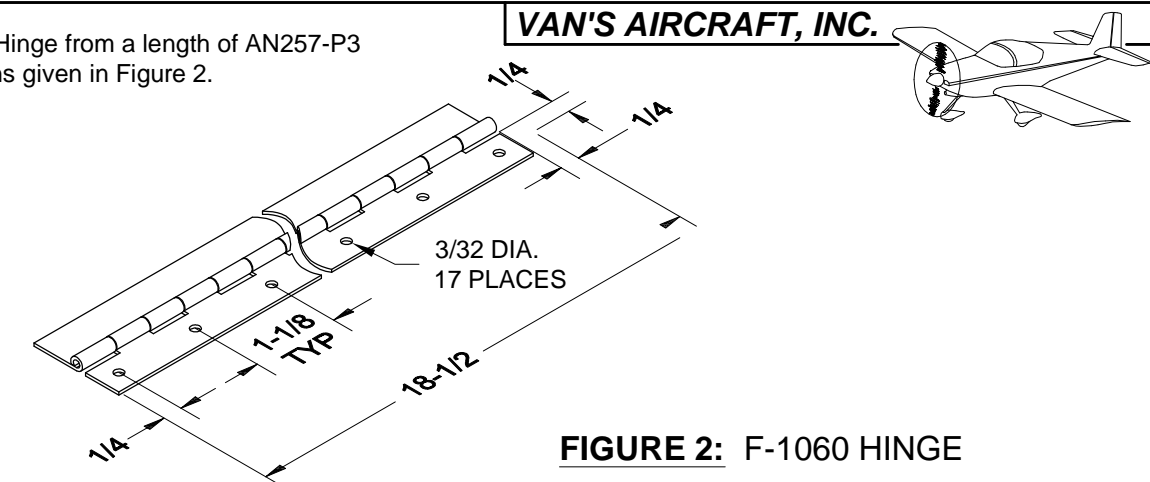

FIGURE 2: F-1060 HINGE
Step 2: Make the F-1060 Hinge from a length of AN257-P3 according to the dimensions given in Figure 2.